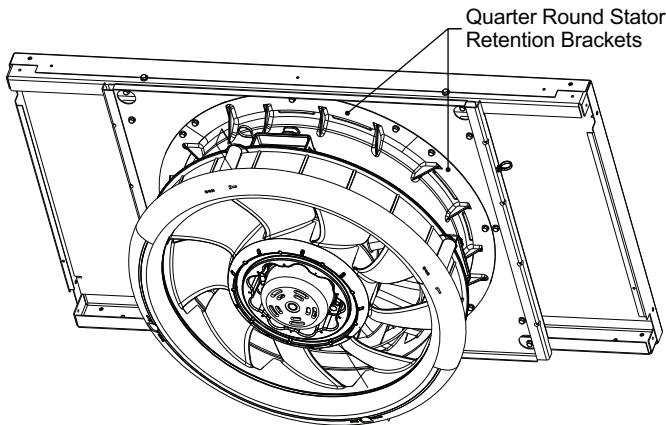

Fig. 25 — Quarter Round Stator Retention Brackets
3. Remove three screws from each of the quarter round stator retention brackets. See Fig. 25.